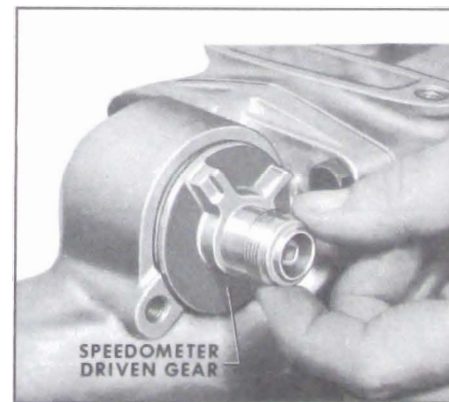

Figure 5-338
1. Install speedo driven gear assembly into rear bearing reatiner. See Figure 5-338.